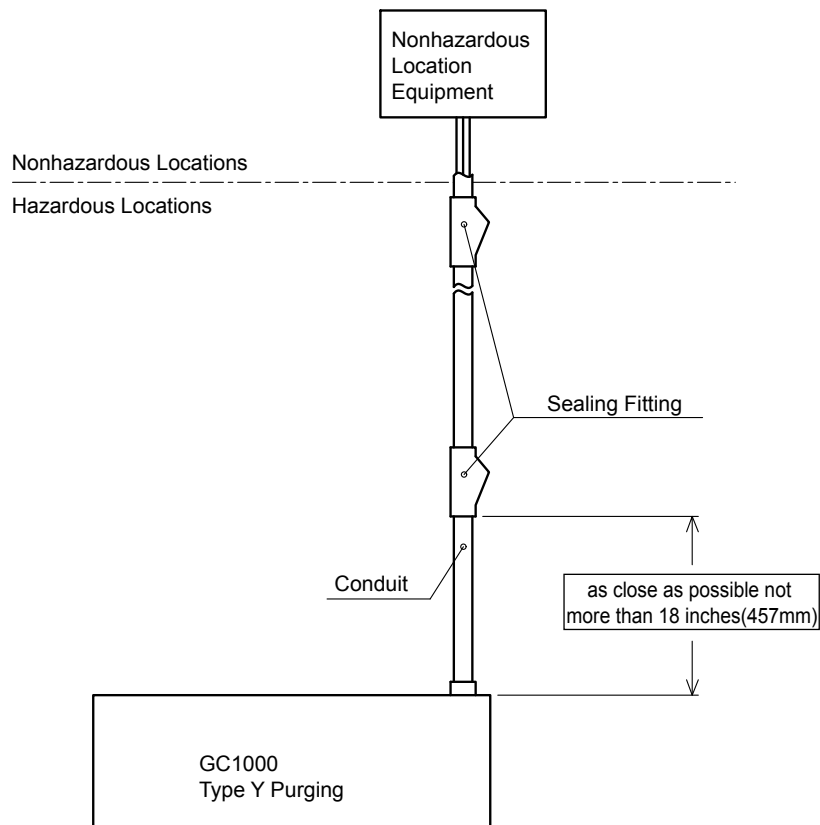

Figure 2.7
- In hazardous location, wiring for type Y purged enclosure to be in conduit as shown in Figure 2.7.